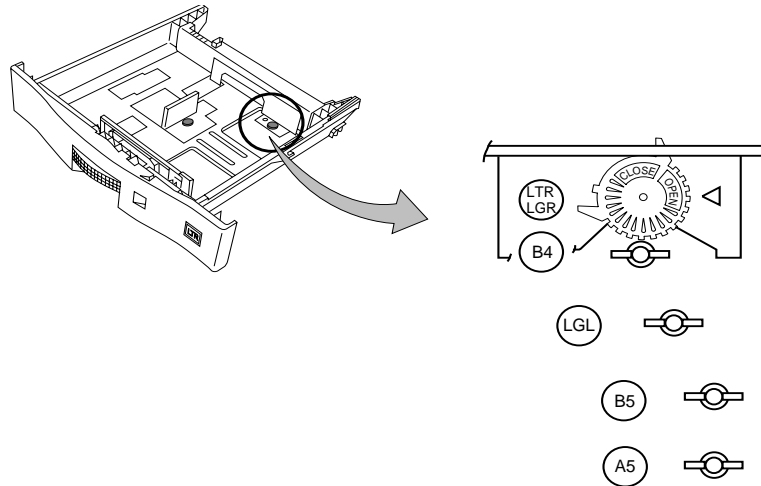

Figure 2-63 Paper Size Locations
- Adjust each paper guide for the same paper size. See Figure 2-63.